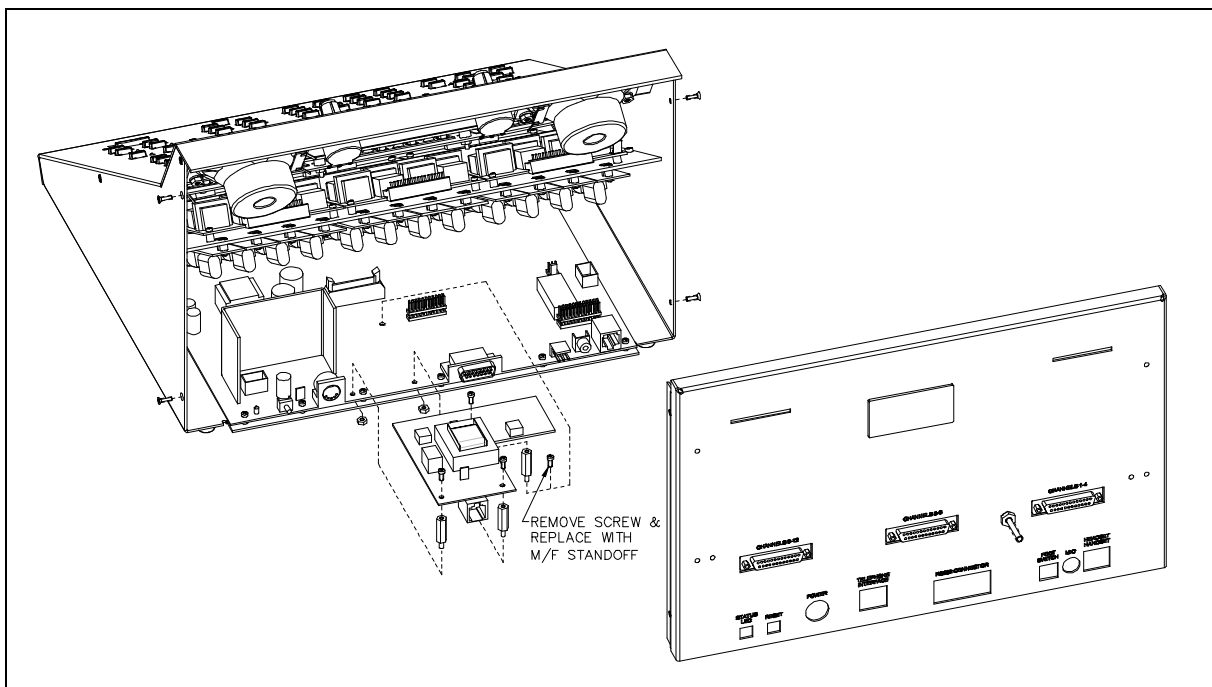

Figure 1.
2. Remove the 4 screws securing the rear panel. Gently pull the rear cover from the housing and disconnect the ribbon cables (SLV-CBL-P) attached to the surge suppression PCBA. Lay the rear panel flat. See Figure 1. (Do not install the phone PCBA at this point.)
6. Remove the screw in the center of the main control PCBA. Screw in one of the supplied #4-40 male/female standoffs. See Figure 1.
7. Attach the remaining two standoffs in the two open holes highlighted by circles on the main control PCBA. Place the threaded side through the holes and attach the supplied #4-40 nuts to the underside. See Figure 1.